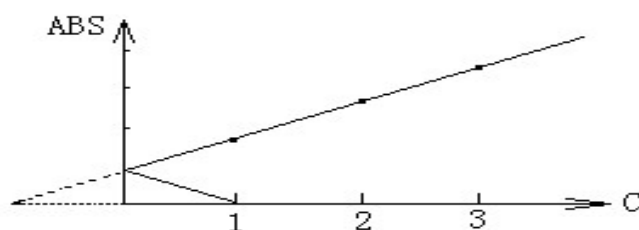

Fig. 3-12
Step 6: For the standard curve doesn't pass through the origin, extrapolate the standard curve according to the absorbance of the blank solution, and the concentration value obtained from the intersection with the abscissa is just the sample concentration (Fig. 3-12).